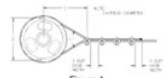

Figure 4
4. If a pulley (sheave) is used in place of a thimble, add one additional clip. Clip spacing should be as shown. (See Figure 4)
If a pulley (sheave) is used for turning back the wire rope, add one additional clip. (See Figure 4).
\*If a pulley (sheave) is used for turning back the wire rope, add one additional clip. See Figure 4.